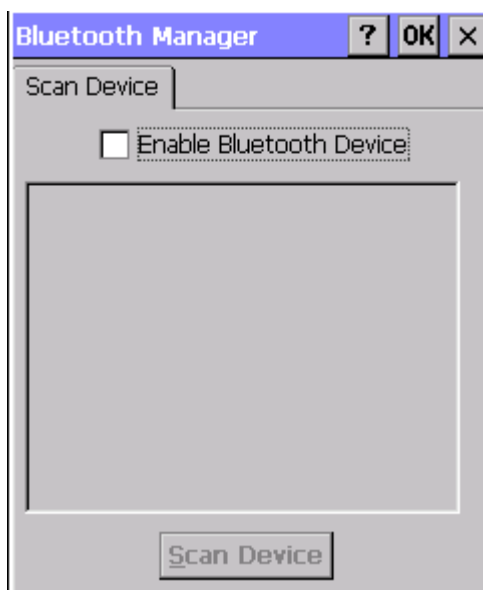

Figure 3-25 Bluetooth Manager Window
• “Scan Device” Tab (Figure 3-25) : ✓ Tap the Scan Device button to initiate a scan for Bluetooth devices. The Bluetooth manager lists the Bluetooth devices that it finds, see Figure 3-26. If Bluetooth hardware is not found in the PDT, the Bluetooth Hardware Error window appears, see Figure 3-27. Table 3-18 described the Bluetooth Icons. ✓ Double tap the device to connect to on the device list. The Bluetooth Manager Authentication window appears. Tap No to connect to the device without authentication, or tap Yes to authenticate the device before connecting. (Figure 3-28) ✓ If the Yes button was selected in the Bluetooth Manager Authentication window, the enter PIN windows appears. Enter a PIN (between 1 and 16 alpha numeric characters) in the Enter PIN: text box, and tap OK. The mobile computer sends the PIN request to the device for bonding. (Figure 3-29) ✓ When prompted, the same PIN must be entered on the other device. When the PIN is entered correctly on the other device, the bonded icon  appears on the device list. (Figure 3-30)